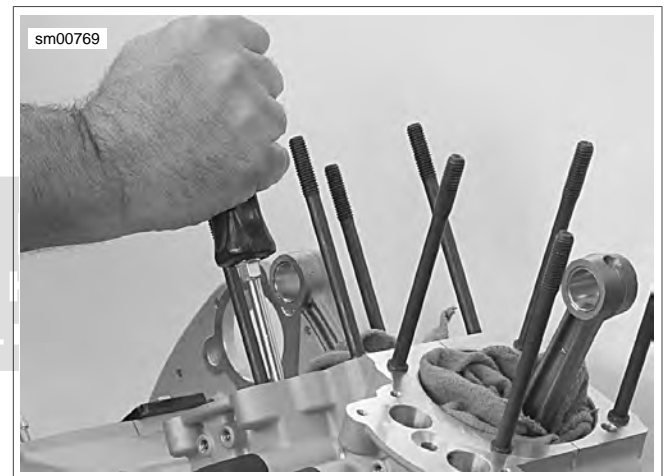

Figure 3-114. Checking Cam Gear End Play
6. See Figure 3-114. Check cam gear end play for each cam gear as follows: